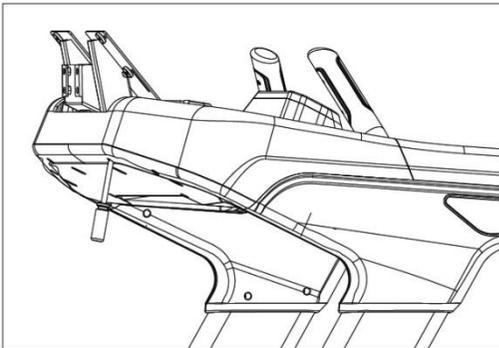

Figure 4.9.1
4.9.2 As shown in Figure 4.9.1, remove the 18 screws from the upper bracket of the fixed bracket with a screwdriver to remove the bracket cover.